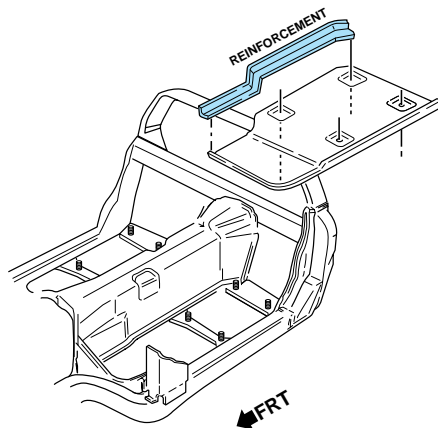

Fig. 3.45 — Reinforcement Bonded to Tunnel and Floor
- 4 Remove the side reinforcement bonded to the floor panel and the tunnel area (Fig. 3.45). NOTE: Use care when removing the reinforcement, if damaged during the removal process replacement will be necessary.